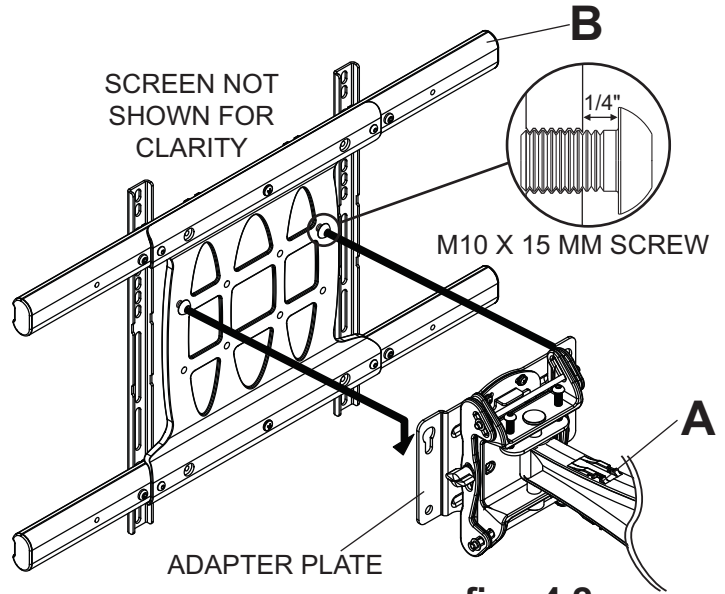

fig. 4.2
For Universal Adapter Bracket: Hook M10 x 15 mm screws into keyslots of wall arm adapter plate (A) as shown figure 4.2.